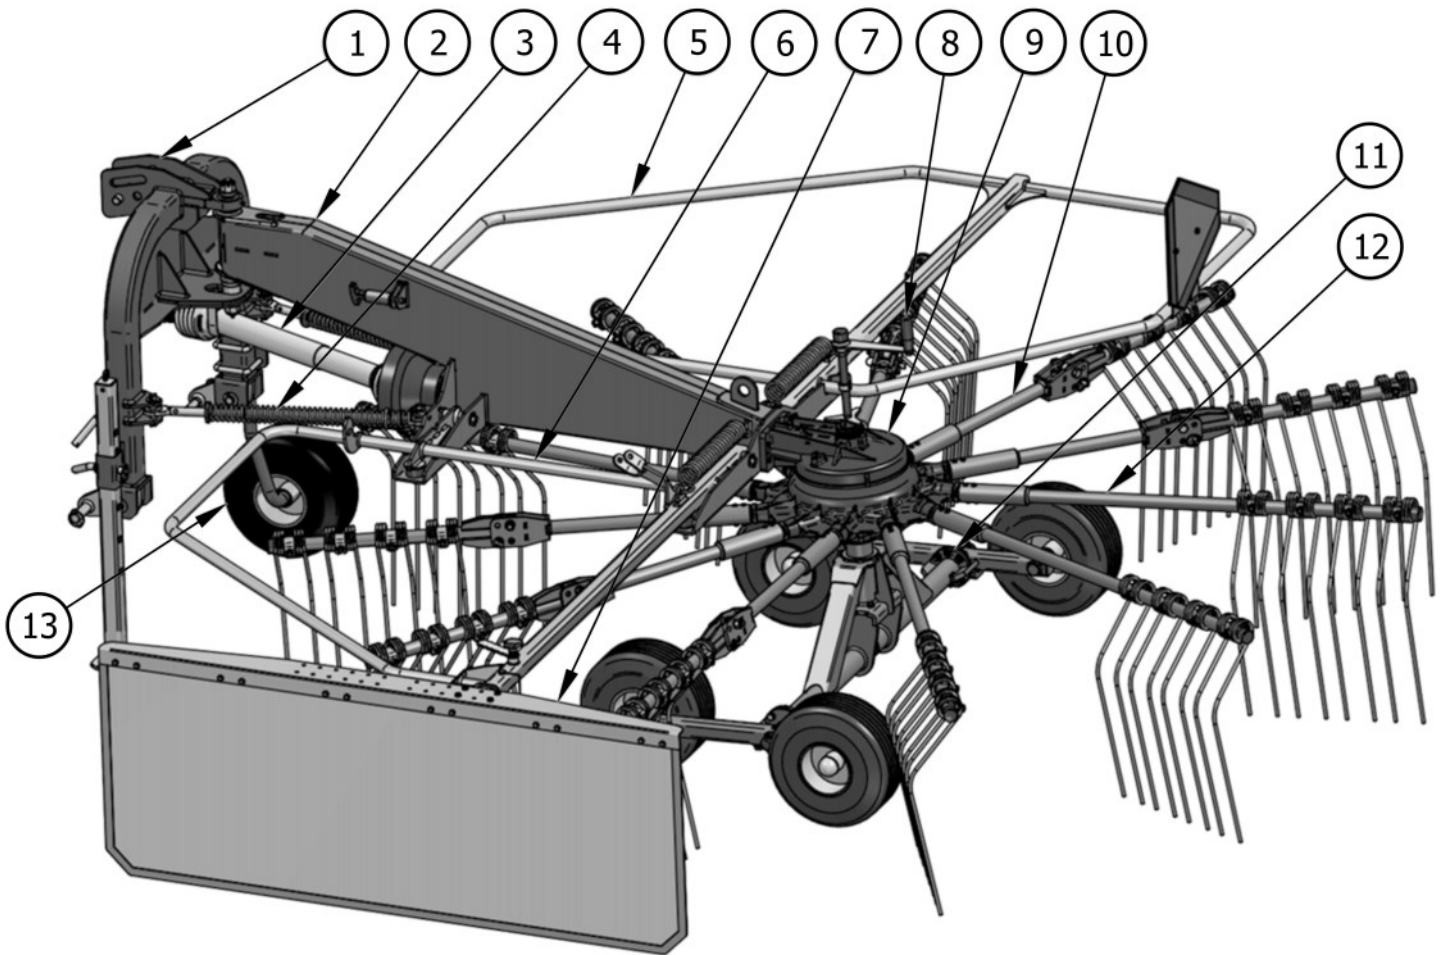

Figure 2. Single-rotor hay rake – main components
The construction of the machine is shown in Fig. 2. The headstock of the machine (1) is connected to the main frame (2) via the main pivot pin and additionally via a pair of steering rods with spring compression (4). The rods are mounted one at each side and are responsible for centralizing of the machine behind the tractor. The machine is fitted with 11-arm rotor (9).